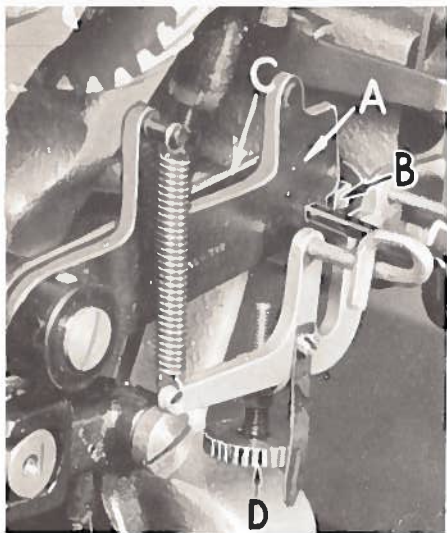
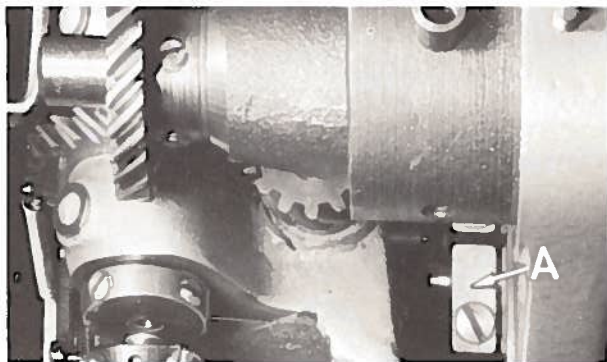
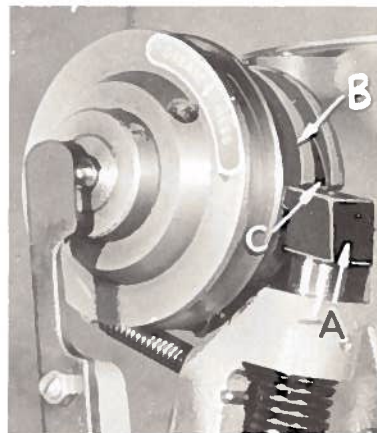

Fig. 15
Fig. 17
Fig. 16
Check the pull-off lever plunger (B, Fig. 15) to be sure it operates freely. Looking down into the head of the machine under the front main shaft bearing, loosen the clamp screw in driving crank (A, Fig. 17), and manually raise the pull-off lever
The pull-off lever (A, Fig. 15) is set correctly when it snaps off the plunger (B) as the stop motion plunger (A, Fig. 16) comes to an abrupt stop against the stop motion disc (B) when operating machine by hand.
Check the pull-off lever plunger (B, Fig. 15) to be sure it operates freely. Looking down into the head of the machine under the front main shaft bearing, loosen the clamp screw in driving crank (A, Fig. 17), and manually raise the pull-off lever (A, Fig. 15) and plunger operating lever (C). Then, carefully lower the pull-off lever (A) until it just drops off the point of the plunger (B). Then, carefully tighten clamp screw in driving crank (A, Fig. 17).
If too much thread tail shows on completed tack, turn pull-off lever control screw (D, Fig. 15) clockwise to reduce length of tail. If starting thread is too short, causing loss of stitches, turn the control screw counterclockwise until slight amount of tail shows.